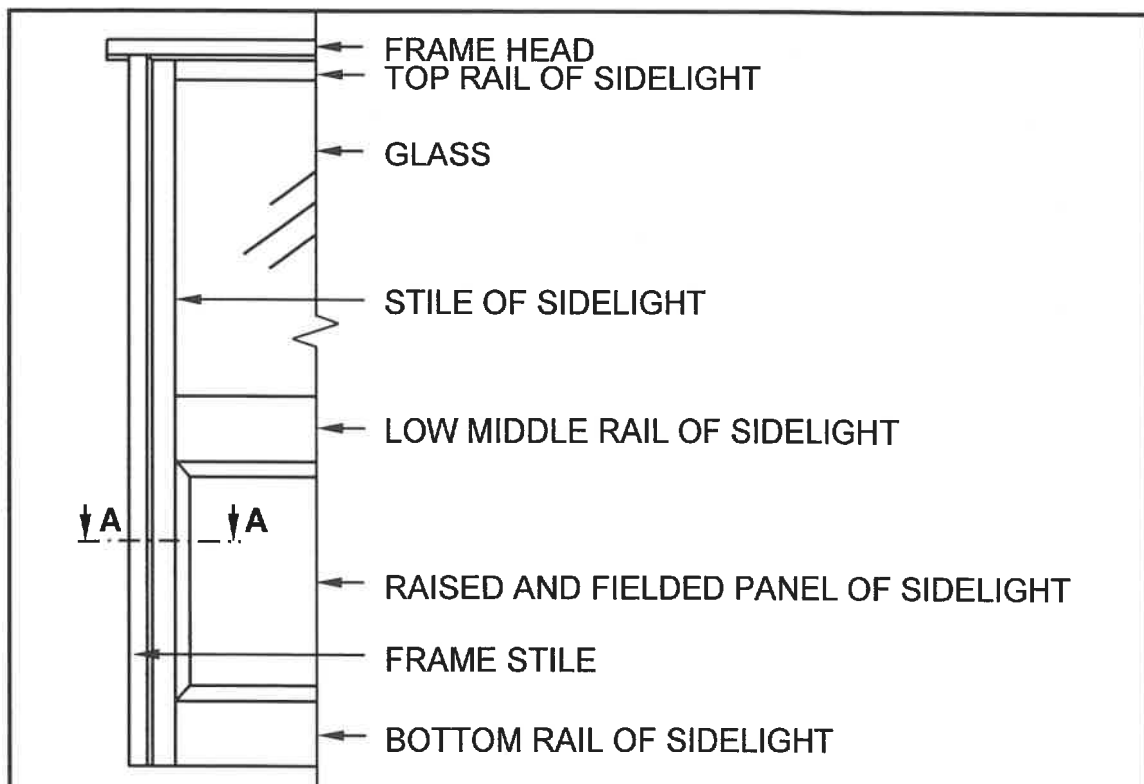

FIGURE 6.6
6.6 FIGURE 6.6 below shows a part of the front elevation of an entrance door with a fixed sidelight fitted in a door frame.